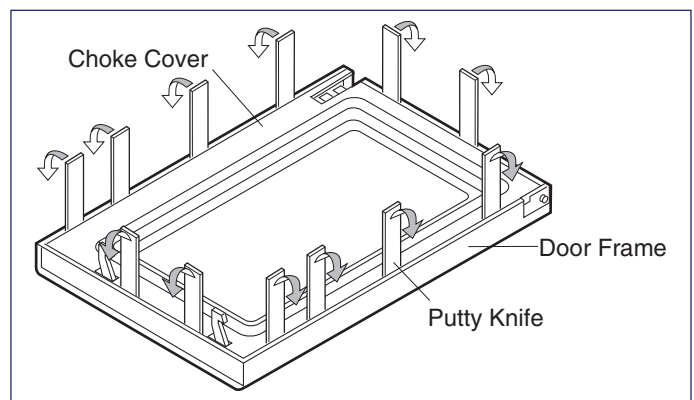

Figure 4-7. Door Components
3. Insert a putty knife (thickness of about 0.5mm) into the gap between the choke cover and door frame as shown in Figure 4-7 to free engaging parts.
4. Pry the choke cover by inserting a putty knife as shown Figure 4-7.
7. Release two (2) pins of door panel from two (2) holes of upper and lower oven hinges by lifting up.